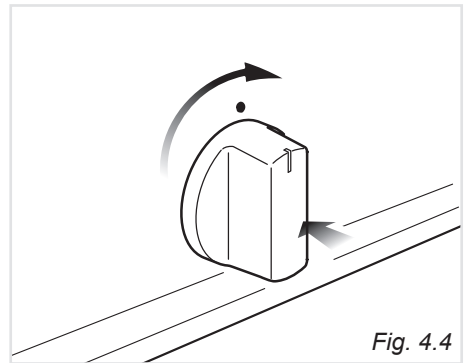

Fig. 4.4
2. Lightly press and turn the thermostat knob clockwise (Fig. 4.4) to the position  (fig. 4.1). Press the knob firmly until the burner lights.